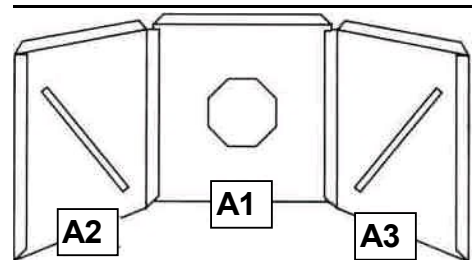

Fig. 1: Front wall and side walls
Step 2: All three parts have on one edge a glue tab slanted on both sides. This edge is at the top, and the viewing window will later be glued to it. Stand the front wall [A1] with this tab at the top in front of you, the black inner face towards you, and on the left at a right-angle to it stand the left side wall [A2] so that the glue tabs bevelled on both sides are at the top. The black faces of both parts are then facing inwards, and the gold printed faces outwards (Fig. 1). Ensure that the rectangular sloping glue mark with the 5 arrows is on the inside of the left side wall with its lower end near the front wall. Stick the front wall in this position onto the side glue tab of the left side wall.